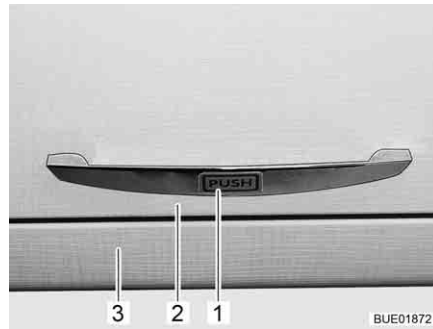

Fig. 39 Furniture flap with pressurised release
- Press the furniture flap (Fig. 39,2) with the handle (Fig. 39,1) against the cabinet body (Fig. 39,3). The furniture flap is unlocked.